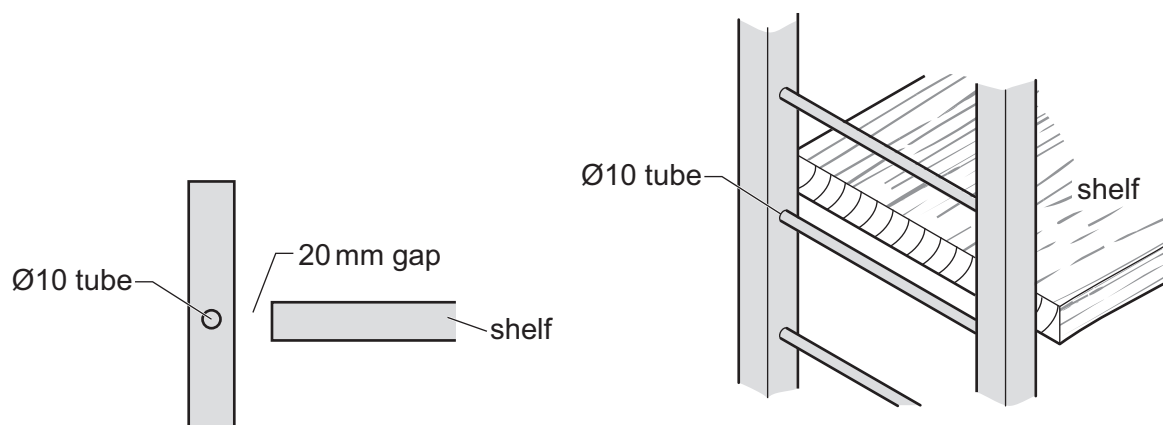

Fig. 13.4
- (e) Fig. 13.4 shows the position of the end of a shelf and an end frame. There is a gap of 20 mm between the end of the shelf and the 20 × 20 square tube.